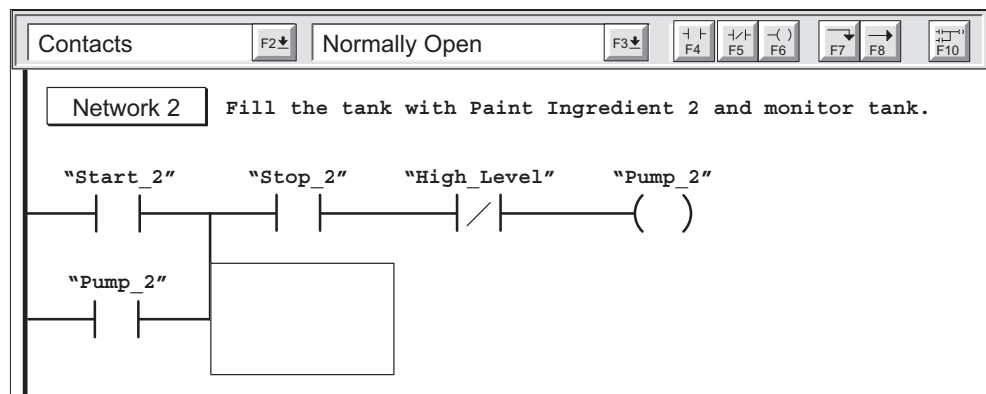

Figure 4-12 Entering the Second Network
2. In the network comment field, type the comment shown in Figure 4-12. (Since the comment for Network 2 is nearly identical to the one for Network 1, you can also select and copy the text from Network 1 and paste it into the comment field for Network 2, then change the paint ingredient number to 2.)
3. Repeat the steps you used to enter the elements of Network 1, using the symbol names shown in Figure 4-12.